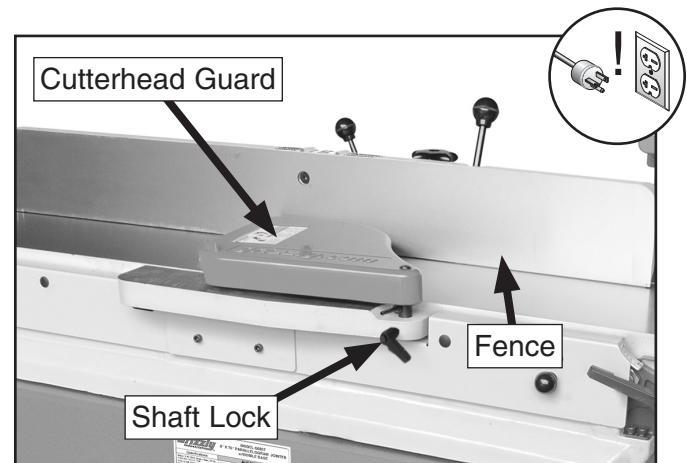

Figure 71. Cutterhead guard components.
2. Set fence to 90° and move it all the way back, then pull cutterhead guard (see **Figure 71**) and let it go.
3. Loosen shaft lock (see **Figure 71**). Move guard so it is resting against fence, and $\frac{1}{16}$ " above infeed table.